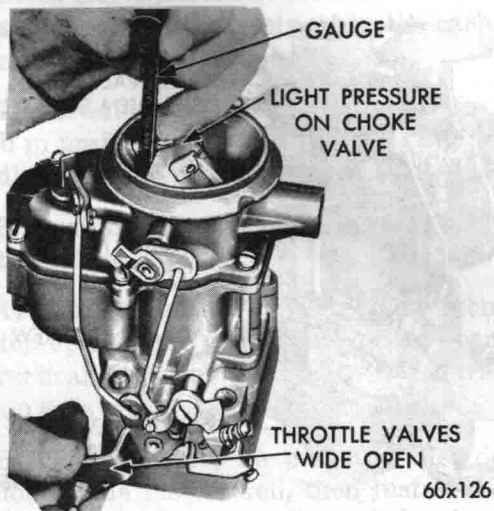

Fig. 19—Checking Choke Unloader Setting
(1) Hold the throttle valves in the wide open position. Insert Tool T109-31 or a  $\frac{1}{4}$ " drill shank between the upper edge of the choke valve and the inner wall of the air horn, as shown in Figure 19.
(2) If no drag is felt, or if too much drag is apparent, bend the unloader tang on the throttle lever, until correct clearance has been obtained.